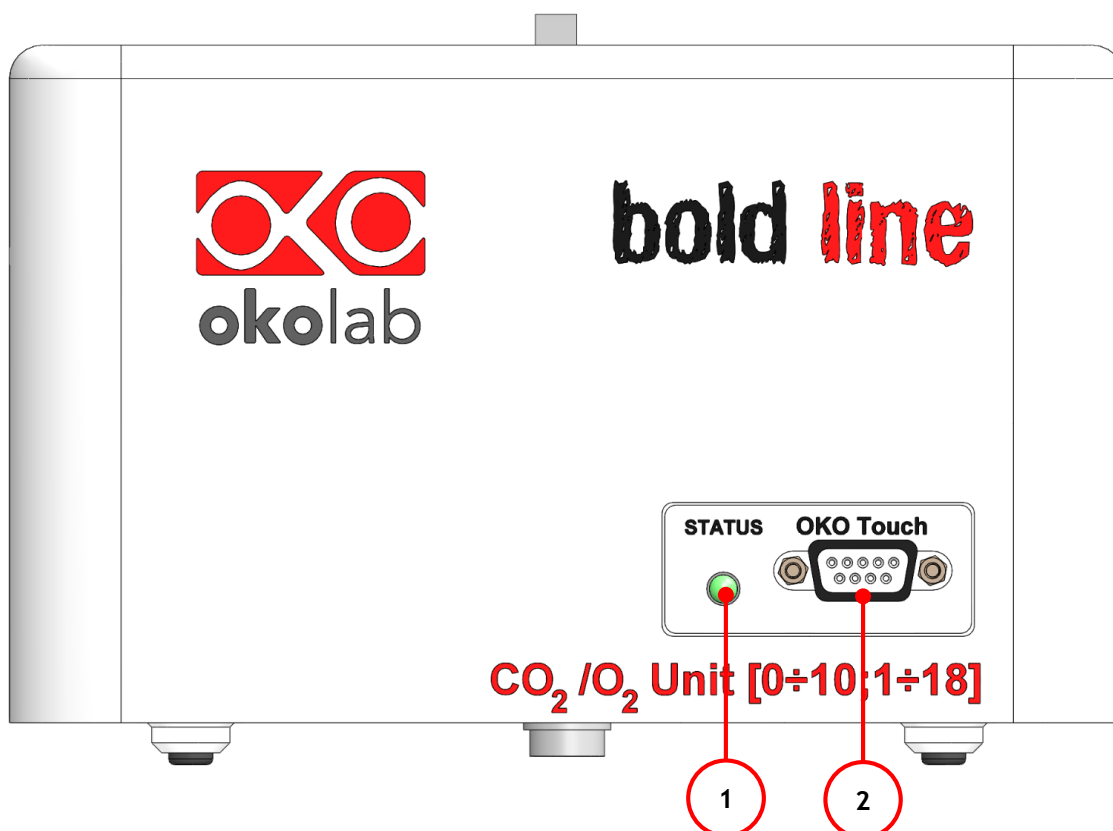

Figure 4. CO2-O2-UNIT-BL [0-10; 1-18] front panel.
Figure 4 illustrates CO2-O2-UNIT-BL [0-10; 1-18] front panel:
7. To switch CO2-O2-UNIT-BL [0-10; 1-18] on use the power button on OKO-TOUCH. The Status LED (1 in Figure 4) on the front of CO2-O2-UNIT-BL [0-10; 1-18] will turn green.